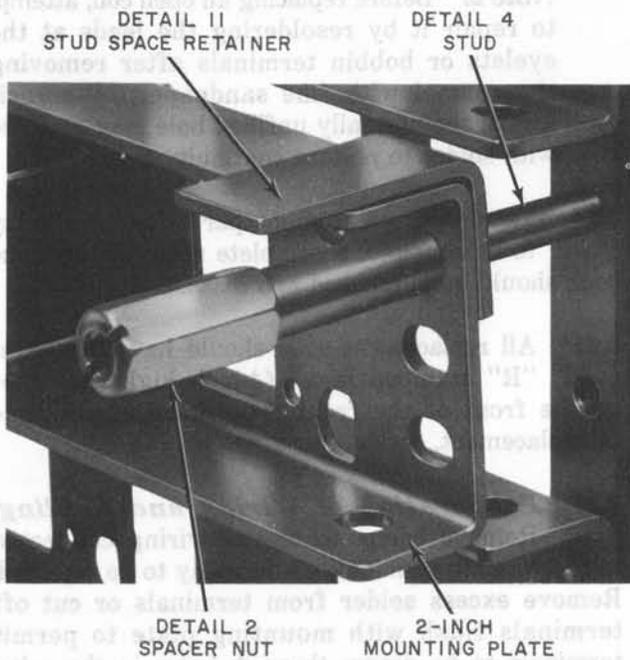

Fig. 12—Detail 4 Studs in Place With Detail 11 Stud Space Retainers
(a) Remove the upper mounting plate screws and loosen the lower screws several turns. Insert the short thread end of the Detail 4 studs through the upper mounting holes at both ends and screw into frame as shown in Fig. 12.
- (e) Insert the Detail 11 stud spacer retainers behind the mounting plate into the grooves of the Detail 4 studs as shown in Fig. 12.